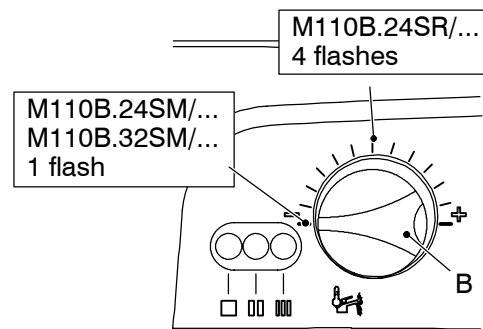

Fig. 9.15
At this step it is possible to visualize the current setting by keeping the reset button C pressed for more than 5 seconds. The lamps E will flash a number of times corresponding to the setting (Fig. 9.15).
- 7 To change the setting turn the knob B on a position corresponding to the boiler models (Fig. 9.15). By turning the knob B, the lock-out signal lamp D blinks quickly (2 per seconds) indicating that the setting has changed and must be memorised.